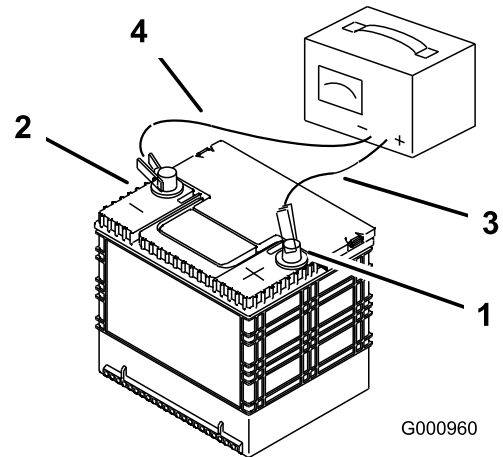

Figure 45
- When the battery is fully charged, unplug the charger from the electrical outlet, then disconnect the charger leads from the battery posts (Figure 45).